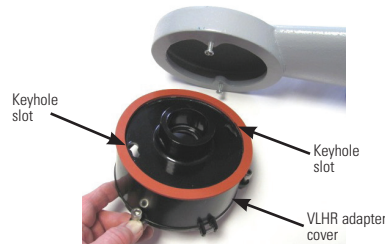

FIGURE 1
- Pull wires through the center opening in the VLHR adapter cover. Slip the keyhole slots in the VLHR adapter cover over the two (2) screws in the mounting module (see Figure 1). Rotate the VLHR cover and snug each screw. Torque each screw to 20 lb.-in. (2.3 N-m).